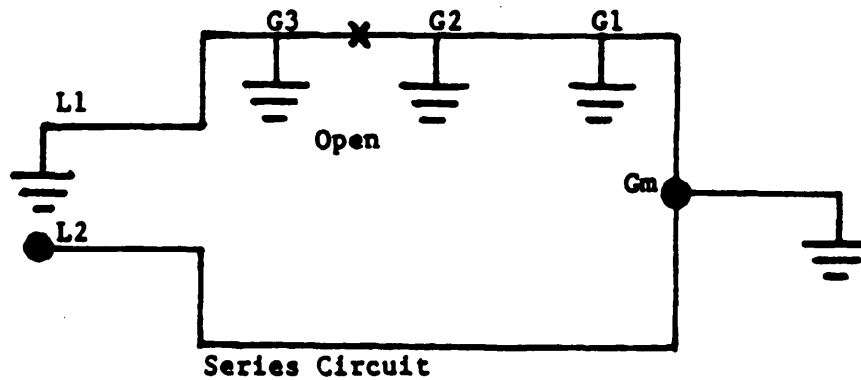

Figure 3-2. Test Grounding With One Open Circuit.
7. Where the open is between L1 and Gm, ground L1 and move ground Gm toward L1 along the circuit to locations (light stations) G1, G2, and G3. Ground one location at a time. (See figure 3-2.)